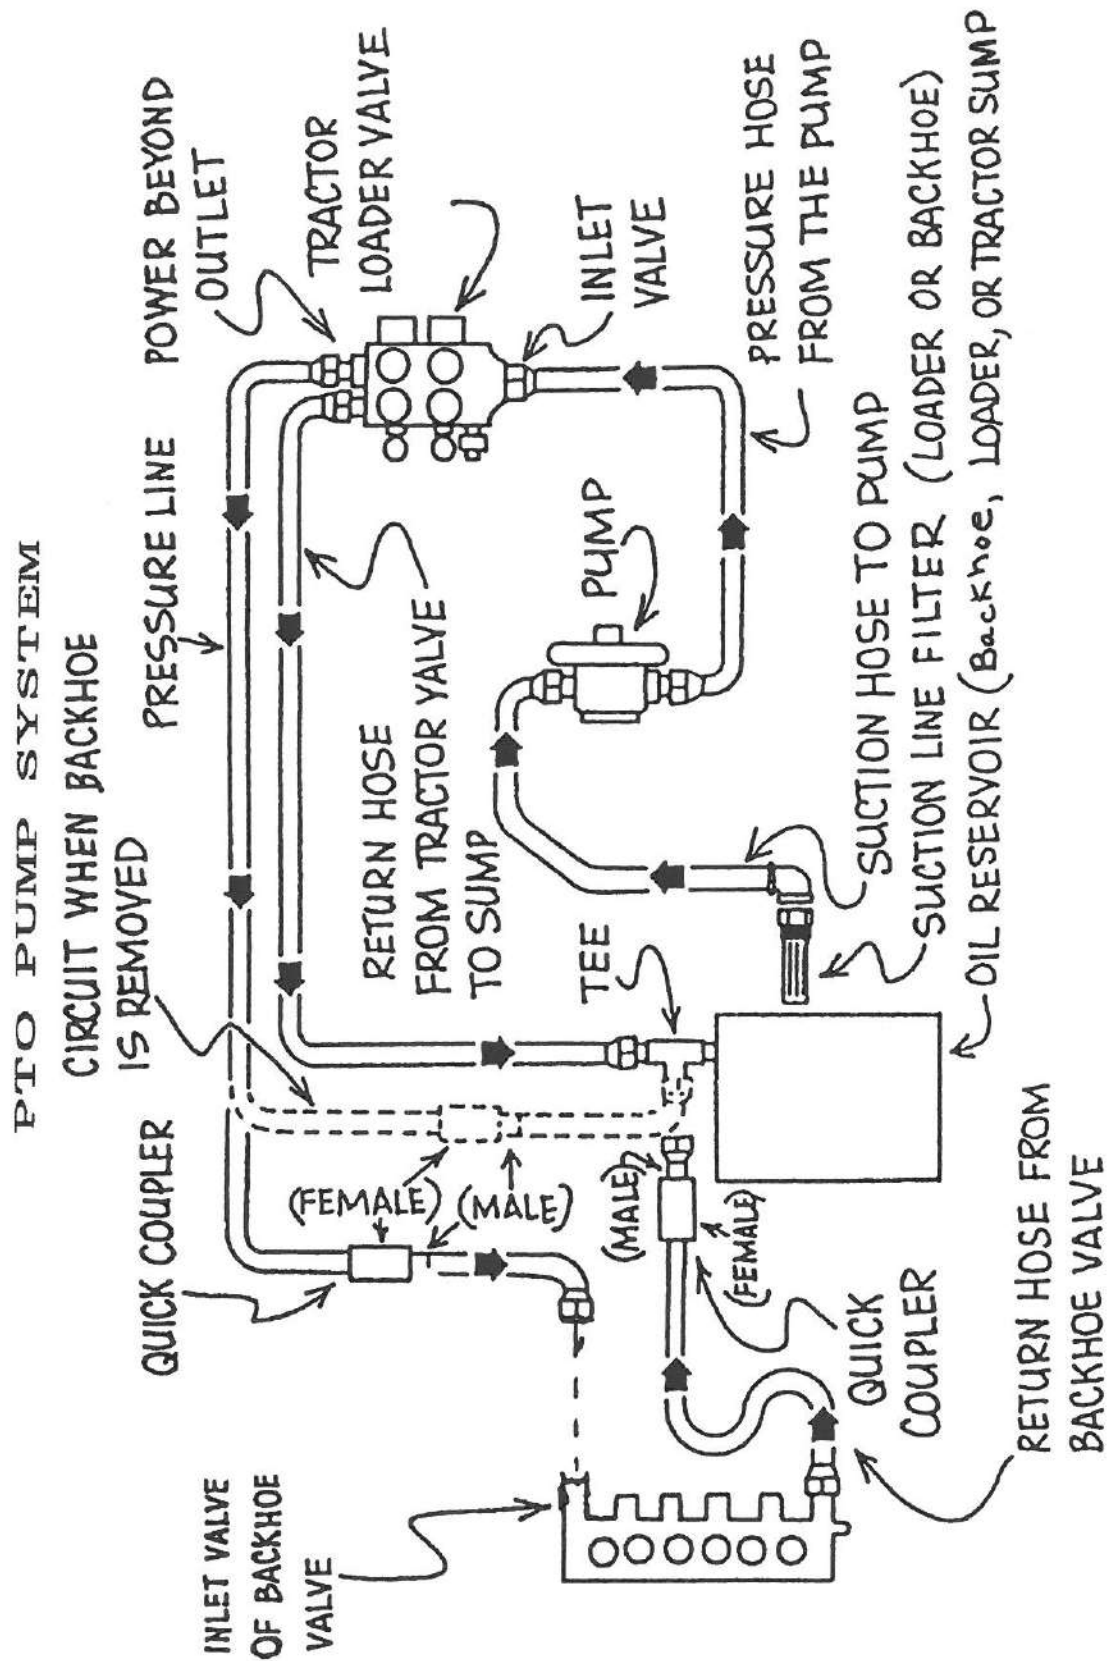

Figure 3
- B. If you wish to run both a loader and a backhoe off of the same hydraulic system, make your connection as illustrated in Figure 1—Power Beyond Hydraulic Systems. Also, refer to the section of this manual entitled **PTO Pump System**, Figure 3. Since there are so many variations for this type of setup, we are showing only a generalized hosing scheme. If you have any questions concerning the specifics for your situation, please contact the factory before attempting operation.
- F. Refer to Figure 3 for hosing.
Install the independent hydraulic system onto the backhoe according to the following procedure. Refer to Figure 3 for the identification of parts. During the assembly, use pipe compound on all pipefittings. None is required on the O-Ring fittings.